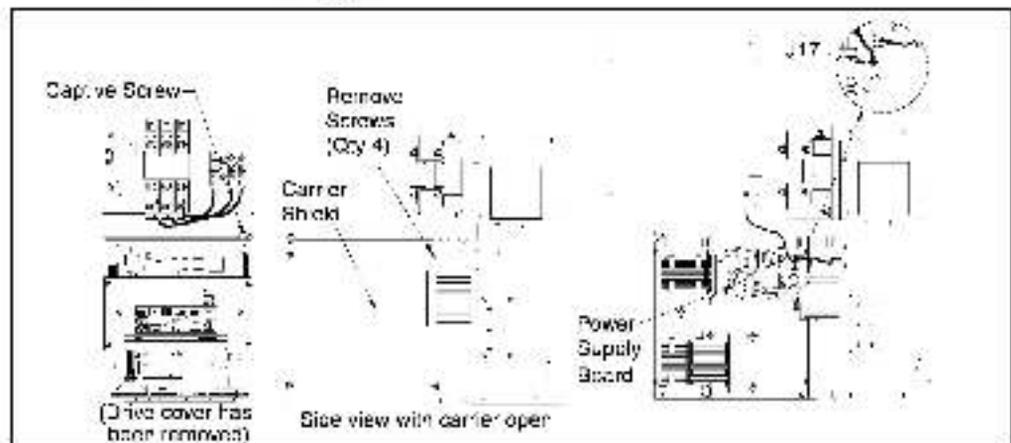

Figure 2.1 – Removing the OIM Carrier Shield
- Step 4. Loosen and remove the four screws that attach the shield to the back of the OIM carrier. See figure 2.1.